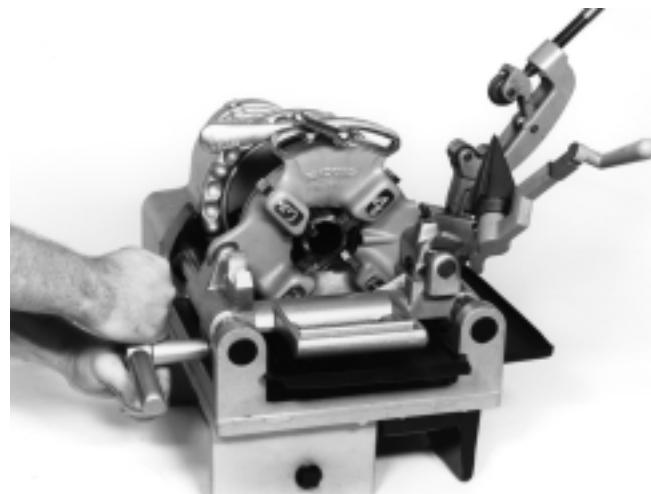

Figure 7 – Threading Pipe with No. 811-A Die Head
(See Figures 7 and 8)
8. Quick-Opening Die Head (Figure 7) – When thread is completed, raise throwout lever to **OPEN** position, retracting dies.